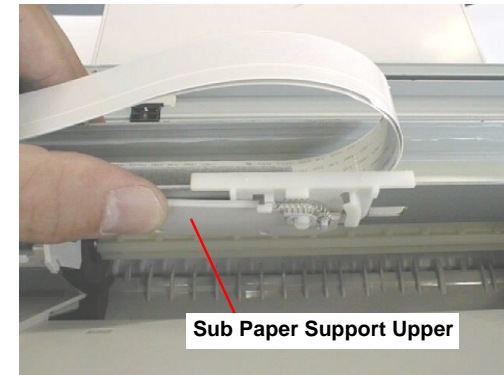

Figure 4-30. Removing the ASF Assembly (2)
- 4) Slide the ASF unit to the right (viewed from back) and pull it backward carefully while holding up the Sub Paper Support Upper. Refer to Figure 4-30.